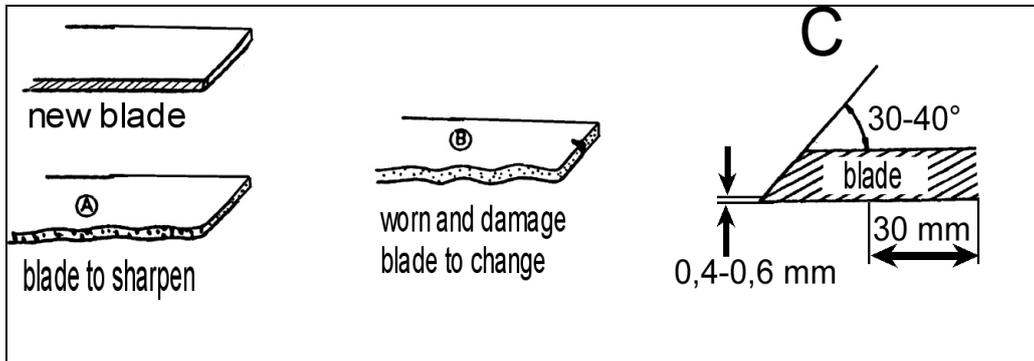

Figure 6
Check rotary blades are in good condition, change worn or damage blade (figure 6).
- Sharpen as shown in C figure 6, follow the angle of 30-40°, keep a sharpen hedge of 0,4 to 0,6 mm. Always keep 30 mm of width.